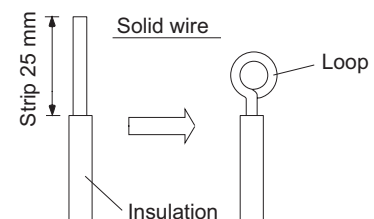

Fig. 2-178
- (1) Cut the wire end with a cutting pliers, then strip the insulation to expose the solid wire about 25 mm. (Fig. 2-178)
- (2) Using a screwdriver, remove the terminal screw(s) on the terminal plate.
- (3) Using the pliers, bend the solid wire to form a loop suitable for the terminal screw.
- (4) Shape the loop wire properly, place it on the terminal plate and fix it securely with the removed terminal screw using a screwdriver.